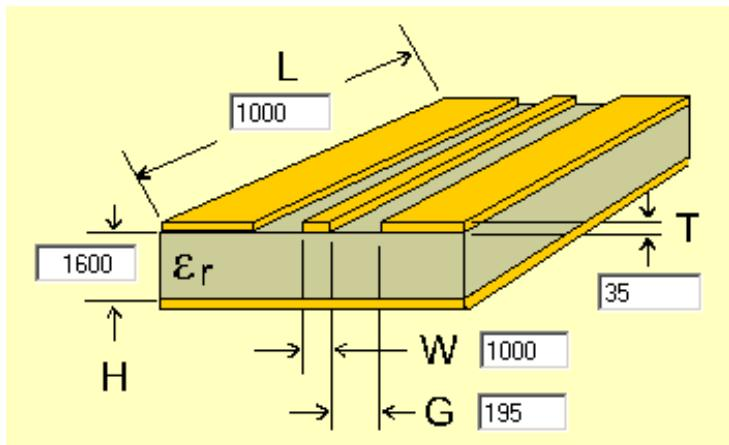
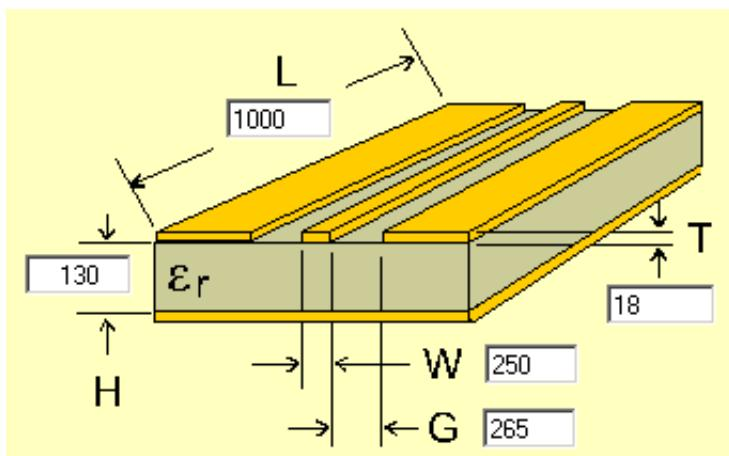

Figure 15: Micro strip on a 2-layer board (Agilent AppCAD Coplanar Waveguide)
Figure 16: Micro strip on a multi layer board (Agilent AppCAD Coplanar Waveguide)
Micro strip is the most commonly used configuration on printed circuit boards and shown below in Figure 15 and Figure 16. As a rule of thumb, to achieve a 50Ω line impedance with FR-4 material, the width of the conductor is roughly double the thickness of the dielectric.
Figure 15 shows an example of a 2-layer FR4 board with 1.6 mm thickness (H) and a 35 μm (1 ounce) copper cladding (T). The thickness of the micro strip is comprised of the cladding (35 μm) plus the plated copper (typically 25 μm). Figure 16 is an example of a multi layer FR4 board with 18 μm (½ ounce) cladding (T) and 180 μm dielectric between layer 1 and 2.